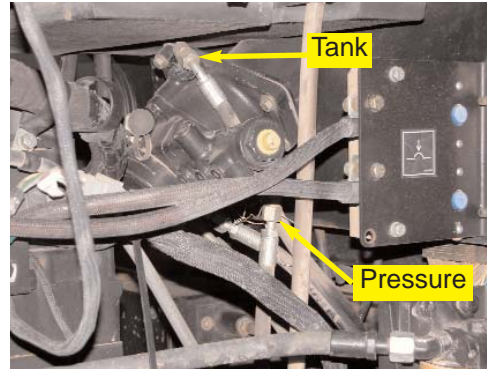

Figure 3a. Pressure and tank locations
- a. The Automated Steering Block will make pressure and tank connections at the manual steering valve in front of the tractor cab. (Figure 3a.)